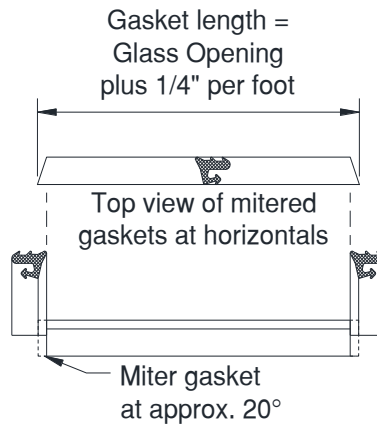

Figure 39: Gasket Cut Guide
13.3.2 Miter the horizontal Gaskets per Figure 39.